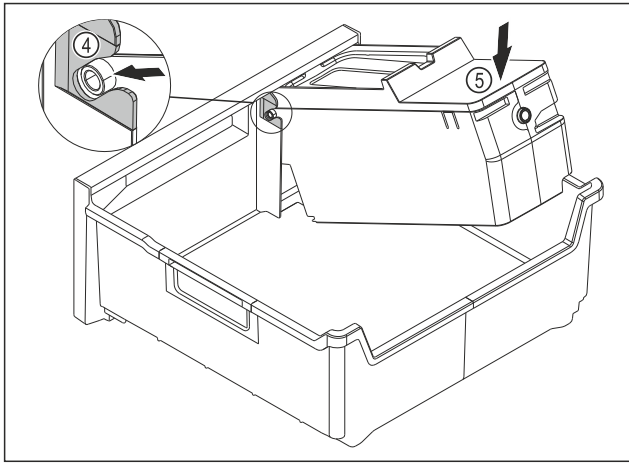

Fig. 140
- ▶ Installing the EasyTwist-Ice body: Push the axes for the EasyTwist-Ice body into the guides Fig. 140 (4).
- ▶ Press the EasyTwist-Ice body Fig. 140 (5) down at the back.